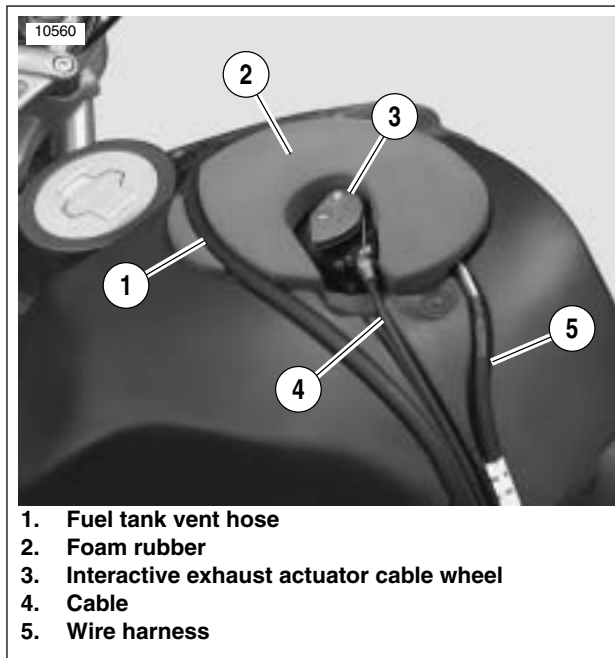

Figure 7-89. Interactive Exhaust Installation
2. See Figure 7-89. If installing actuator:
- a. Attach interactive exhaust cable (4) to cable wheel (3) on actuator.
- b. Install foam rubber isolator (2) and actuator and fuel tank vent hose (1).
- c. Adjust cable (4). See 1.17 INTERACTIVE EXHAUST CABLE \(XB12S\).